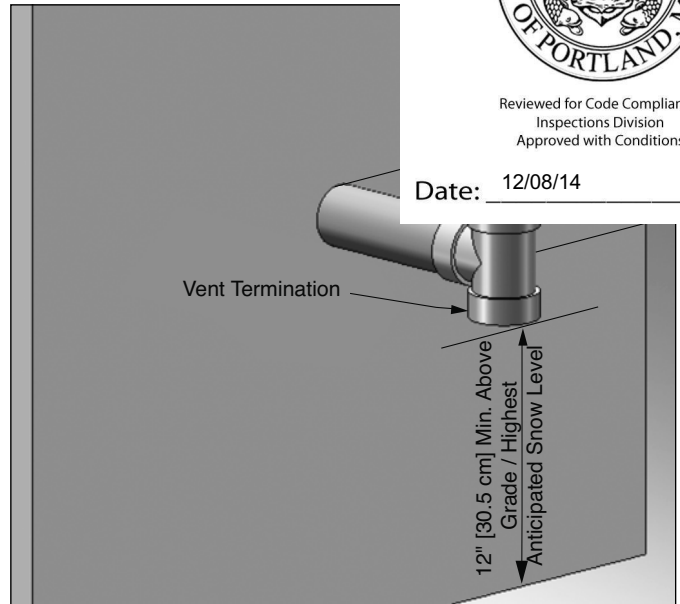
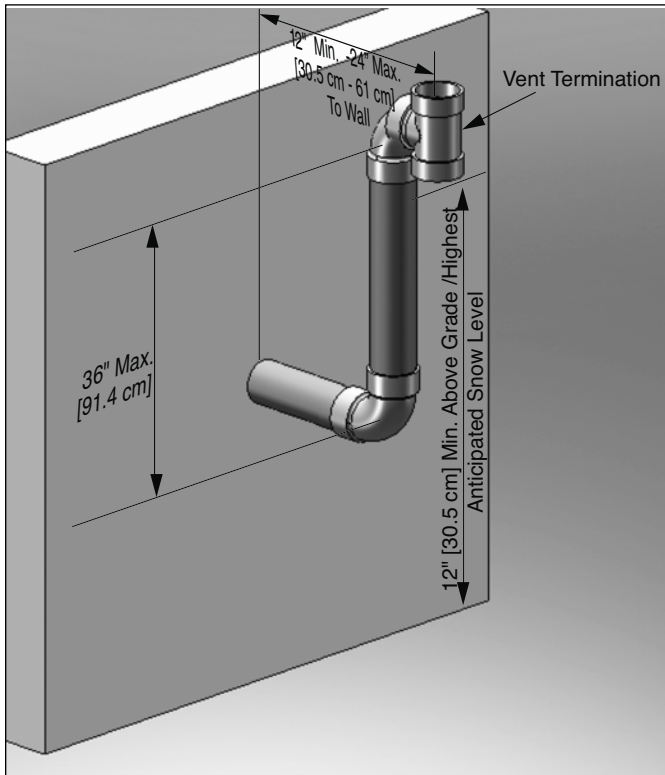

Fig. 27: Category IV - Sidewall Termination of Vent Pipe with Tee Termination
Fig. 30: Category IV - Sidewall Snorkel Termination of Vent Pipe with Tee Termination
- Using a tee as shown in Fig. 27 page 30 or Fig. 30 page 31 .
- Using a tee as shown in Fig. 27 page 30 or Fig. 30 page 31.